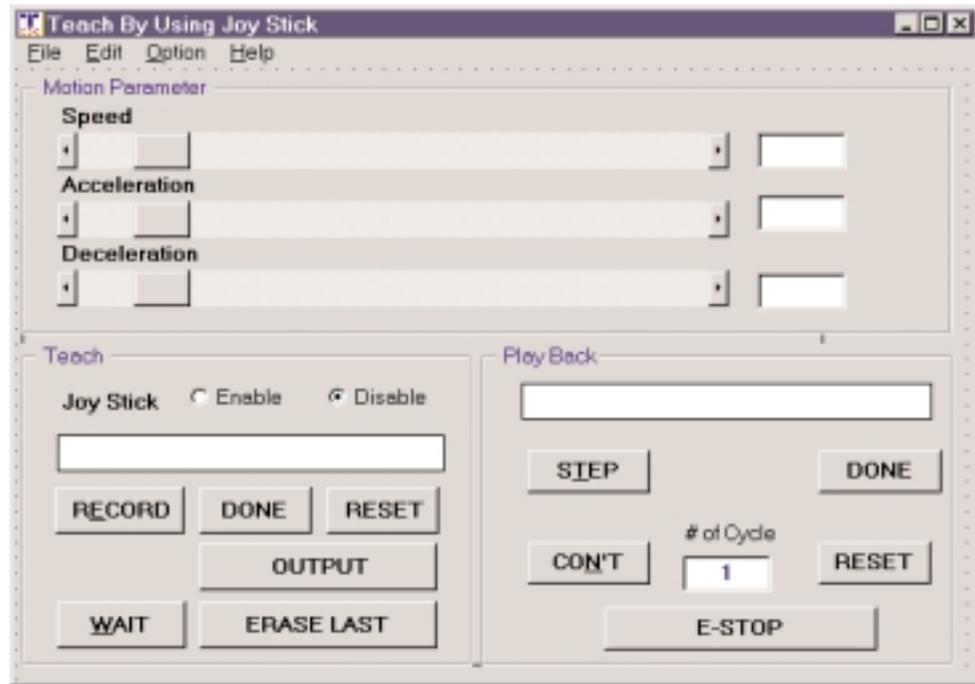

Figure 5.92 - Teach By Joystick
The teach by joystick window, as shown in Fig. 5.92, has been designed for two axes (XY) applications. Enable the joystick function by clicking the “Enable” option. Use the joystick to move the actuators to a desired position. Specify motion parameters (speed, acceleration, and deceleration) and click the left button (RECORD) on the joystick to record data. You can also use the “WAIT” button to place a wait statement in the teaching sequence. After finishing a series of data acquisitions, click the right button (DONE) on the joystick to terminate the teach mode. Use “OUTPUT” button to trigger single/multiple output(s) between moves. (See Figures 5.92, 5.94 and 5.95.)